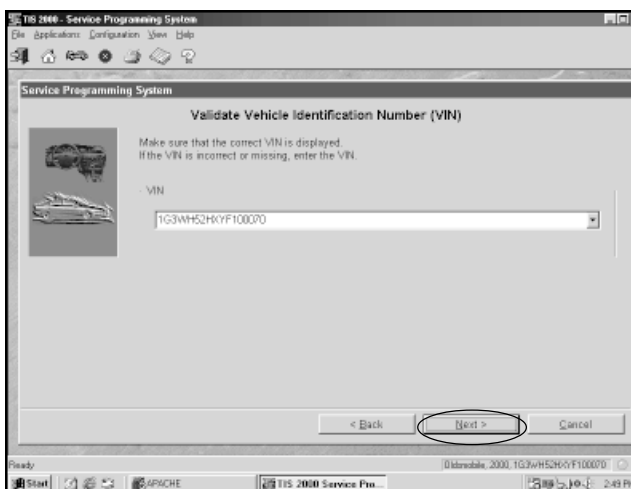

Figure I-20, Validate Vehicle Identification Number (VIN) screen
6. The Validate Vehicle Identification Number (VIN) screen appears. (Figure I-20)